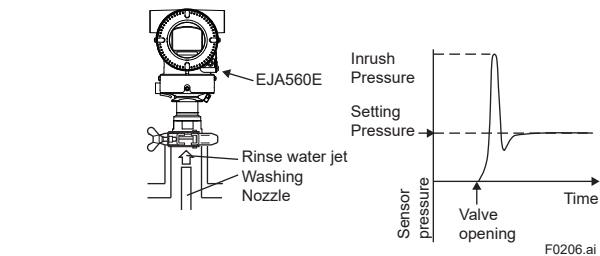

Figure 2.6 Direct washing of Sensor with Washing Nozzle
- Direct washing of sensor with washing nozzle (Figure 2.6)